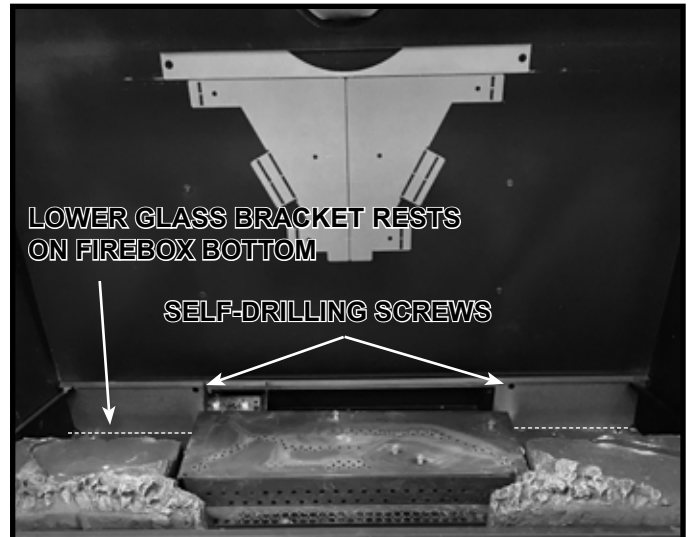
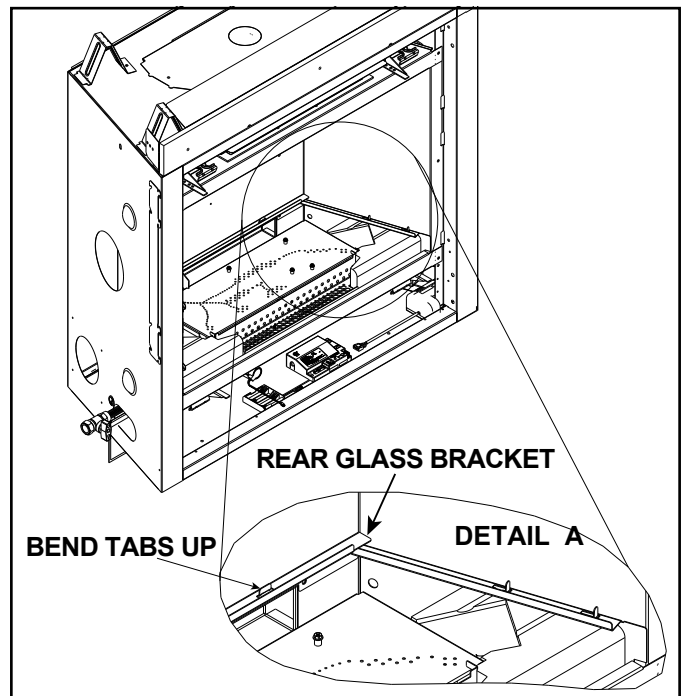

Figure 11.9 Rear Lower Glass Bracket Installed
Figure 11.10 Bend Tabs on Lower Side and Rear Glass Brackets
2. Remove the rear lower glass bracket from the back of the firebox by pulling forward on the top edge to break it free. See Figure 11.8. Bend the hand bend features “up” to about 45 degrees and install the rear lower glass bracket using the self drilling screws from the manual bag. The bracket must rest on the bottom of the firebox. See Figure 11.9 and Figure 11.10.
Note: The lower glass bracket spans the entire width of the back wall of the firebox and rests above the side lower glass brackets. See Figure 11.10, Detail A.